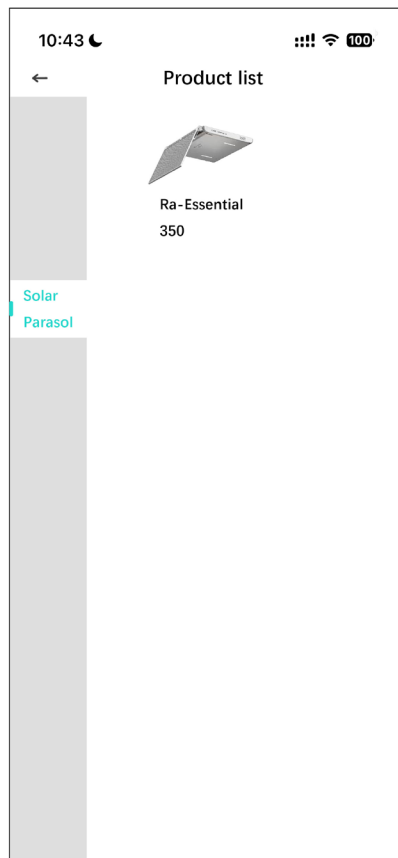

Figure 5
5.2.5 Product Selection (see Figure 5)